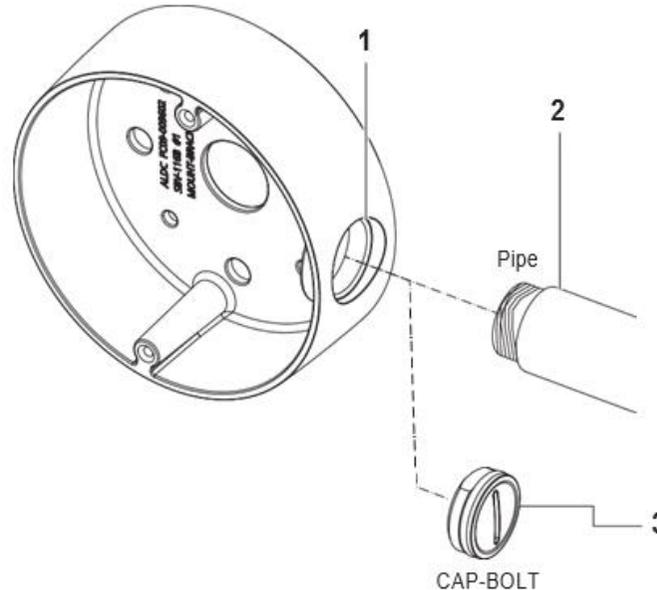

Figure 2
6. Hold the Compact Dome camera up to the mounting back box and route all camera cables through the cable hole on the back box or the cable side entry hole (1) (Figure 2).
**Note:** You must first remove the cap-bolt (3) (Figure 2) and then attach the cable pipe (2) (Figure 2) when using the cable side entry hole.